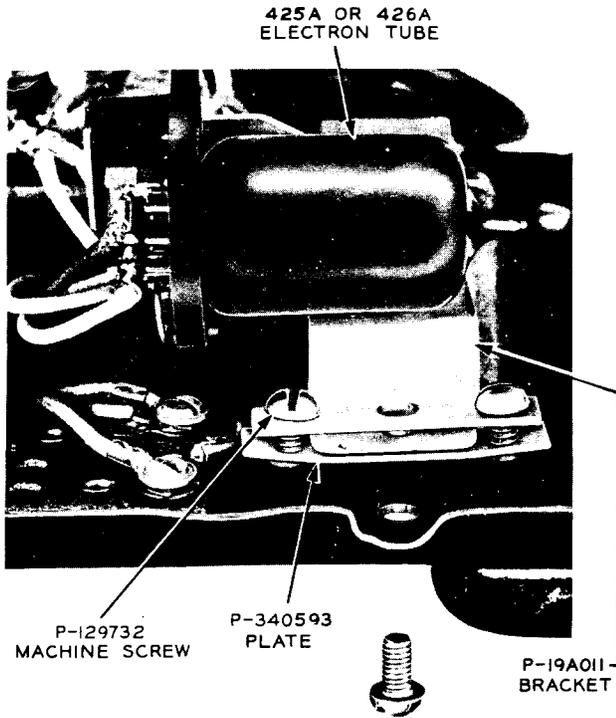

Fig. 7 - Electron Tube Bracket
3.06 The electron tube bracket for the 5306-type telephone set is placed as shown in Fig. 7.